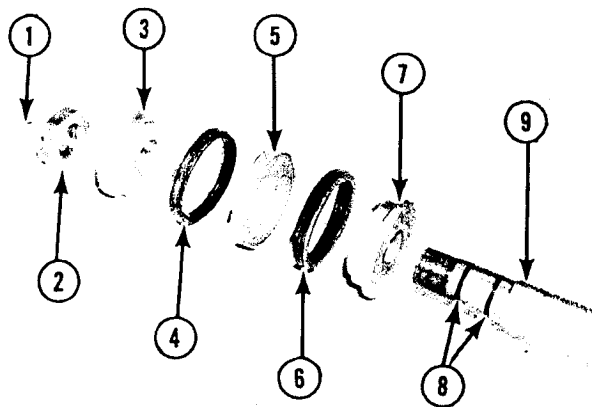

FIGURE 19. SLIDE SHIFT CYLINDER
Refer to Figure 19. Remove cotter pin (1) from drilled nut (2) and remove nut from piston rod. Remove piston half (3), packing set (4), center section (5), packing set (6)